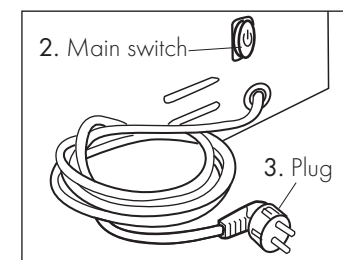

Fig. 1
Switch off the machine with the main switch (2) and always disconnect the plug (3) from the socket if the appliance is not being used (Fig. 1).